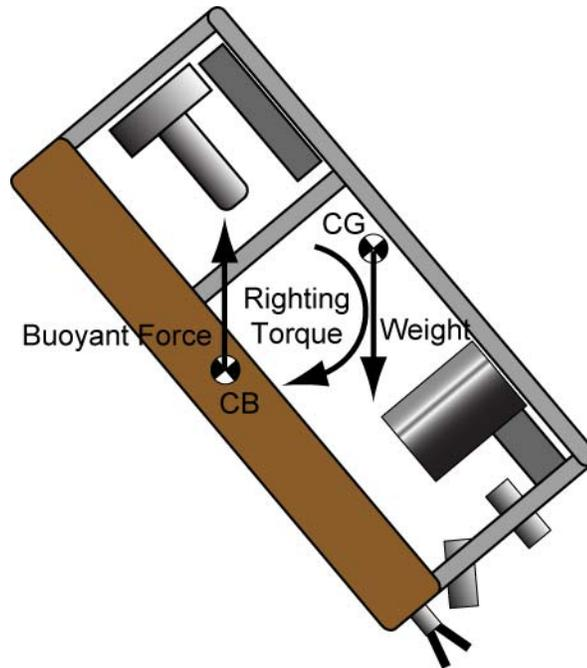

Figure 18: ROV Flipping Upside Down because the CB is below the CG
- Place floating components on the top part of your vehicle and heavy sinking parts near the bottom of your vehicle. This ensures that the righting torque will work properly. If you do not do this, the CB is below the CG and the vehicle will be upside down when reaching equilibrium. See Figure 18.